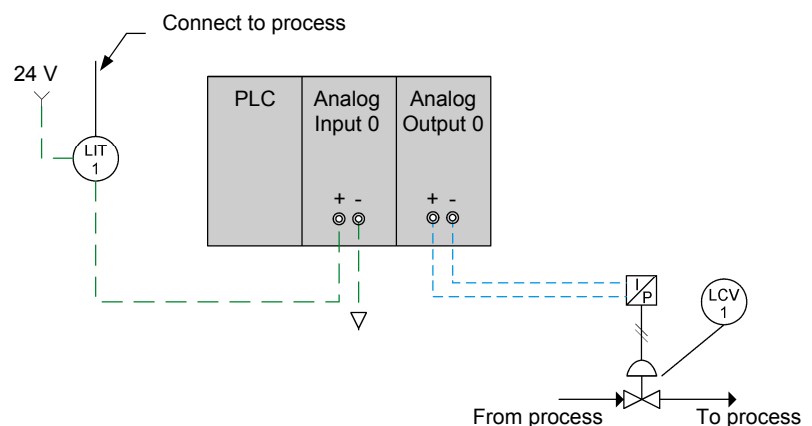

Figure 26. Typical connection for on-off control.
1. Connect the controller to the process as shown in Figure 26.